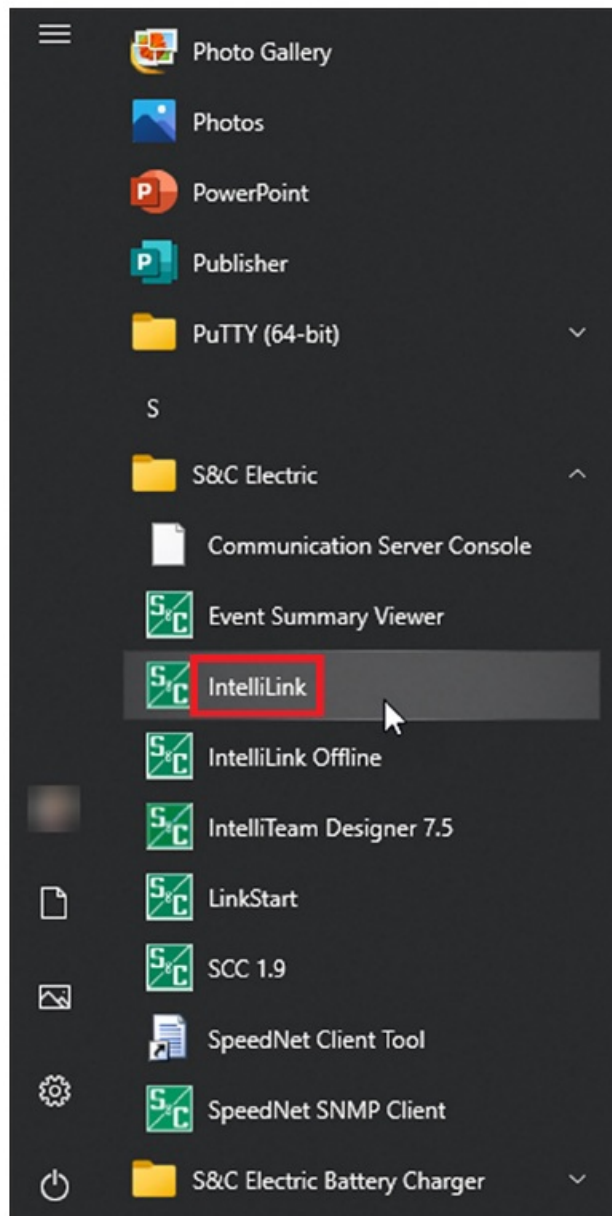

Figure 3. The Windows Start menu.
- **STEP 2.** Open the S&C Electric folder and click on the IntelliLink icon. See Figure 3.